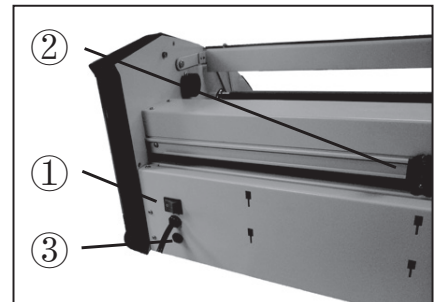

Figure 2
Power Switch (1) - Located on the rear of the machine. "I" (on) "O" (off). (Fig. 2)
Cross Cutter (2) - Used to cut off the laminated web. (Fig. 2)
1. Turn the laminator ON (I) located on the rear of the machine. (Fig. 2)